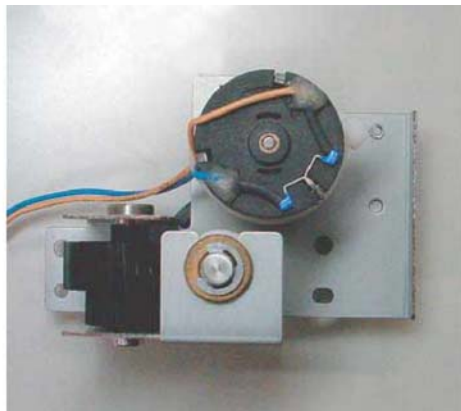

Figure 5 Stacker motor installation
2. Install the stacker motor as shown in Figure 5.